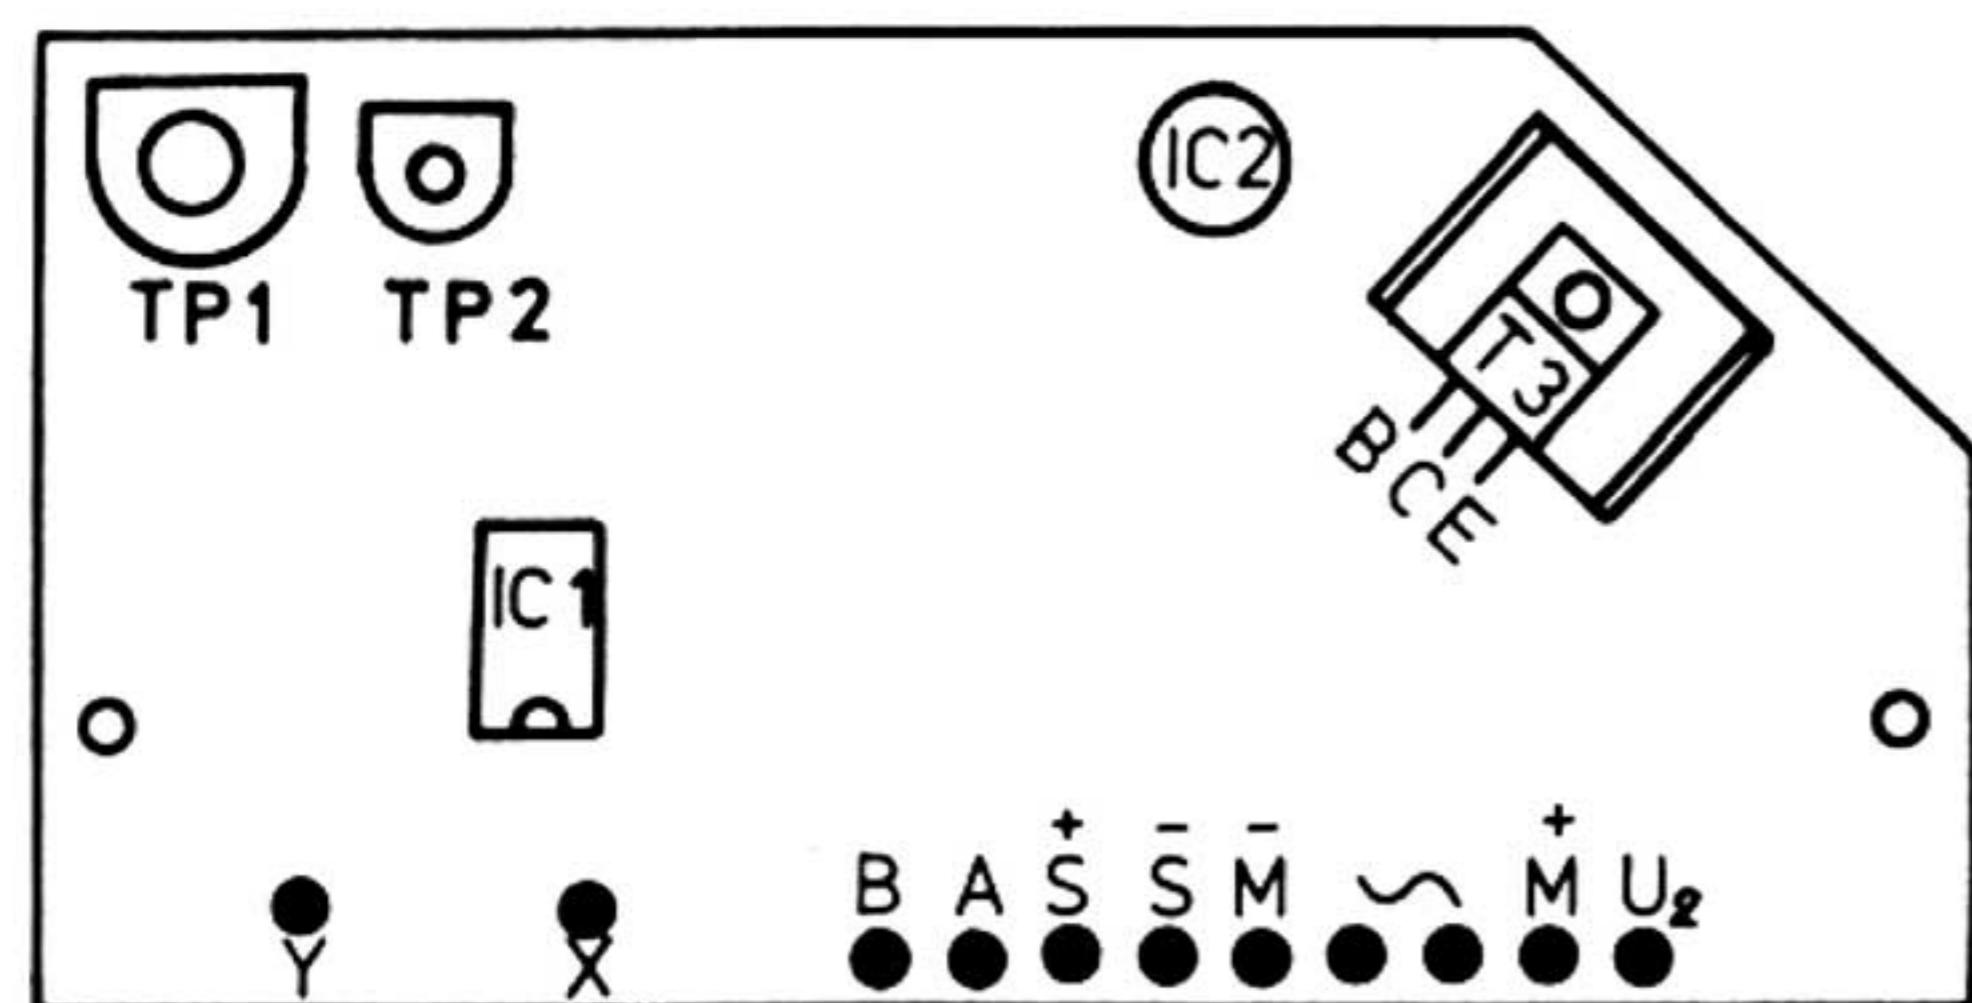

Fig. 2
- Adjustments: The voltmeter should be connected between M (negative) and point X on the printed circuit board (fig. 2). If the unit has turned itself off during section (a), turn trim-potentiometer TP 2 (fig. 2) anti-clockwise to prevent this recurring. Allow the tonearm to play the complete section and observe the highest voltage on the voltmeter (approx. 0.8 to 2.2 V). Move the positive terminal to point Y (fig. 2) and with the pick-up arm in its rest, adjust TP 2 until a voltage 0.5 V higher than that previously observed is obtained (approx. 1.3 to 2.7 V).
All voltages are measured to point M— (fig. 2) by a voltmeter, the input-resistance of which is greater than 1 M ohm per volt.